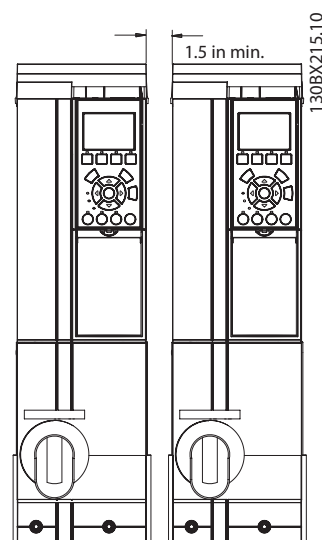

Figure 3.4 Side Cooling Clearance, A-2 and A-3 Frames
- Most option panels with drives may be mounted side-by-side without additional side clearance. A2 and A3 units require 1.5 in. clearance between units (see *Figure 3.4*).